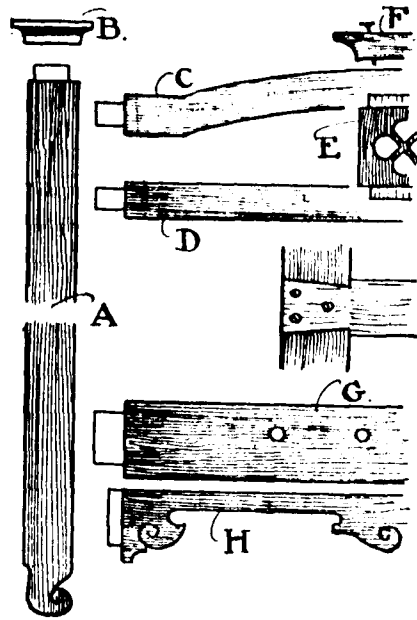

FIG. 36.—Principal Parts.
minor pieces the whole thing will be made of 1 in. stuff to finish $\frac{7}{8}$ in. thick. The illustration of the parts (Fig. 36) will be useful for reference as we go along, and a cutting list showing the various pieces required in the construction is also added, lettered for reference, to help make things clear. Making a start with the end uprights (A), these should be got out to a length of 2 ft. 9 in. by $2\frac{1}{2}$ in., which allows a trifle for the stub tenon on the top end which enters the moulded capping (B). The lower end is shaped with fret saw and spokeshave and touched up with chisel and gouge. Instead of the short tenon at top this projection may be cut back to form a shoulder, so that the capping may